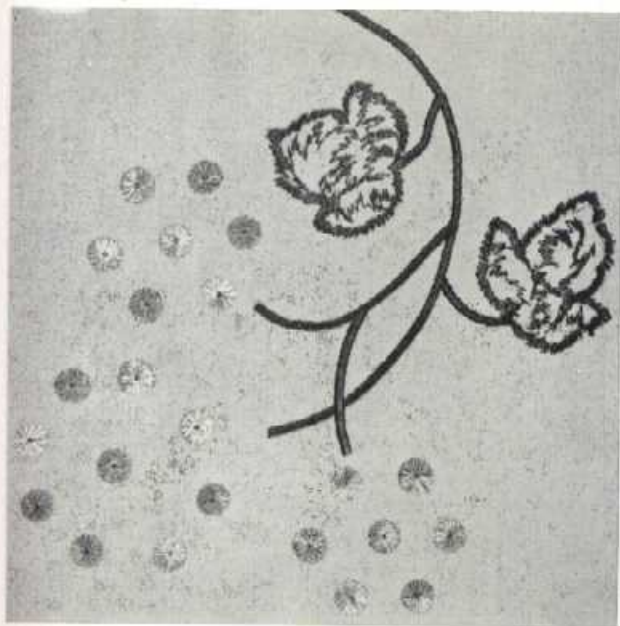

Fig. 104
4. RAISED SATIN DOTS (Fig. 104)